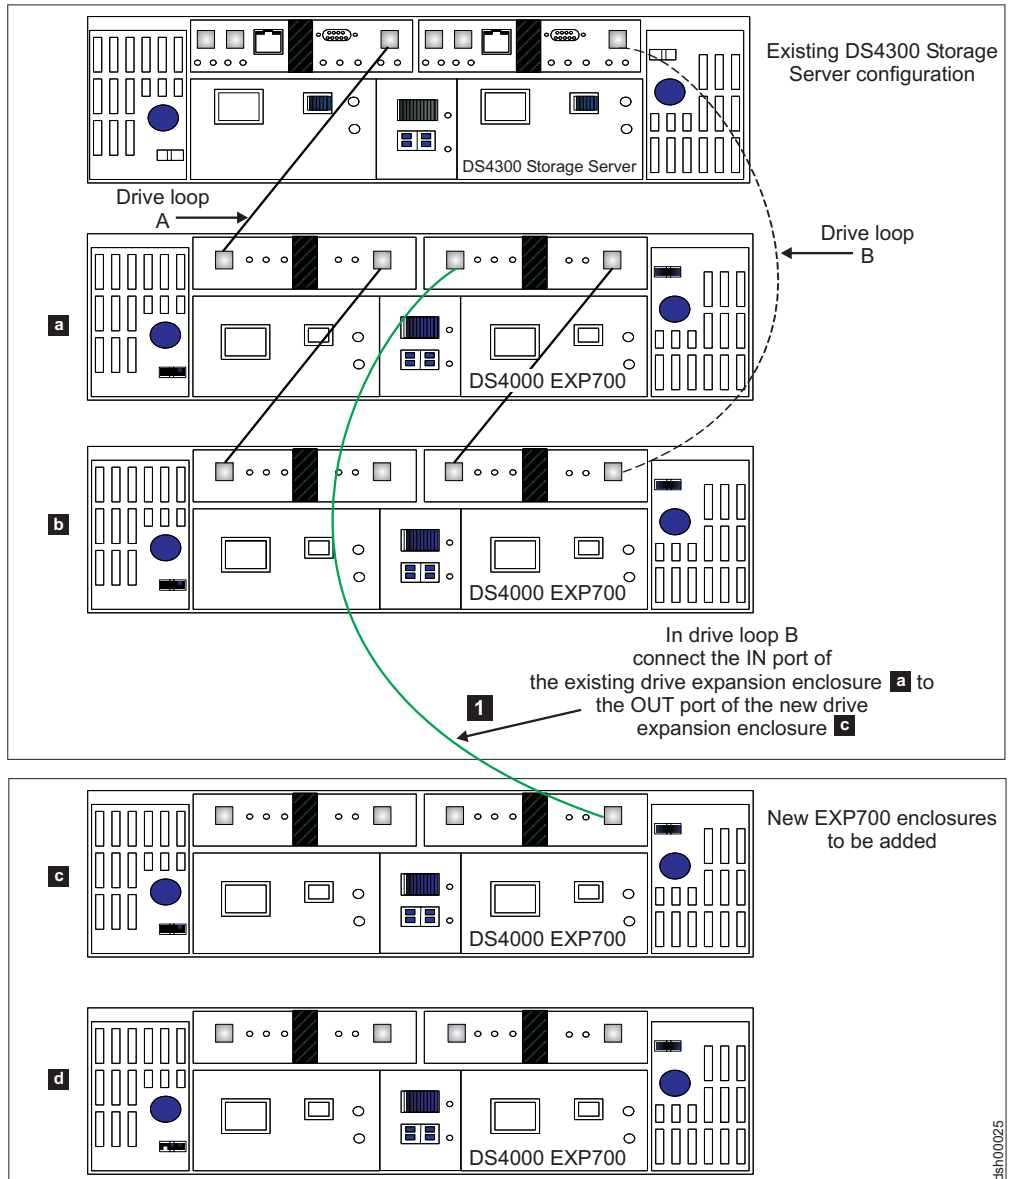
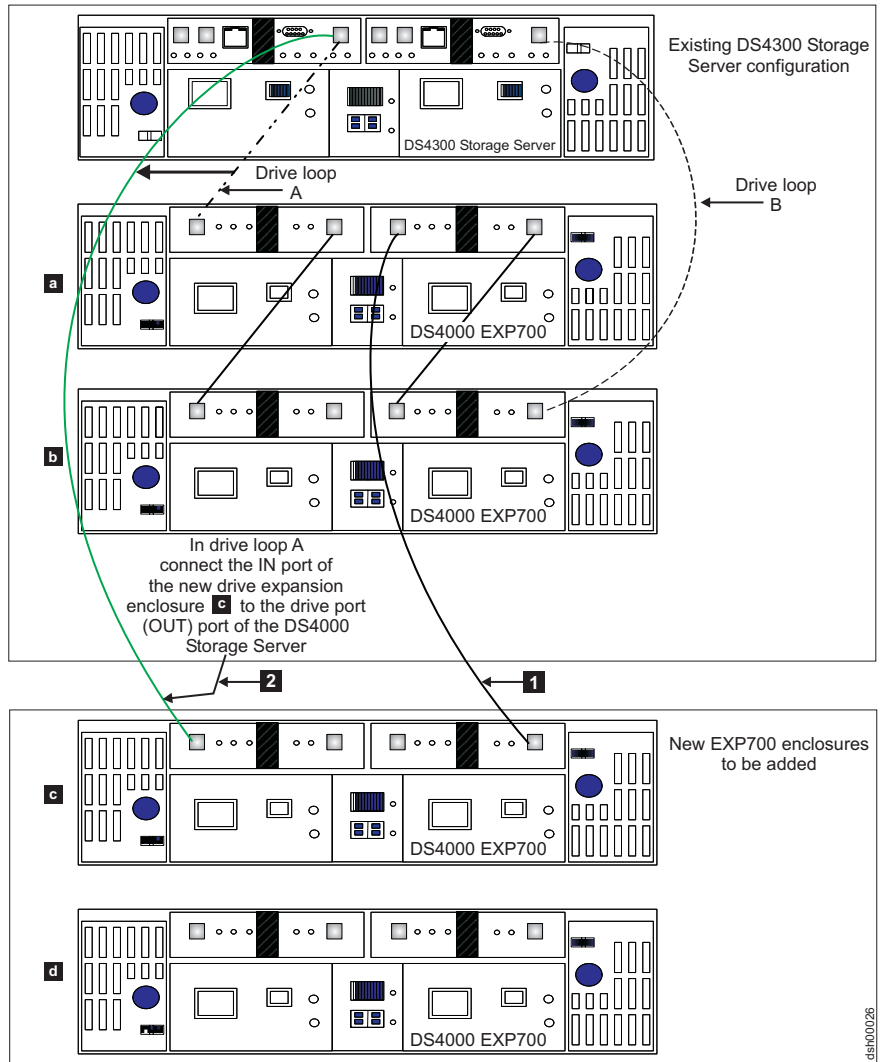
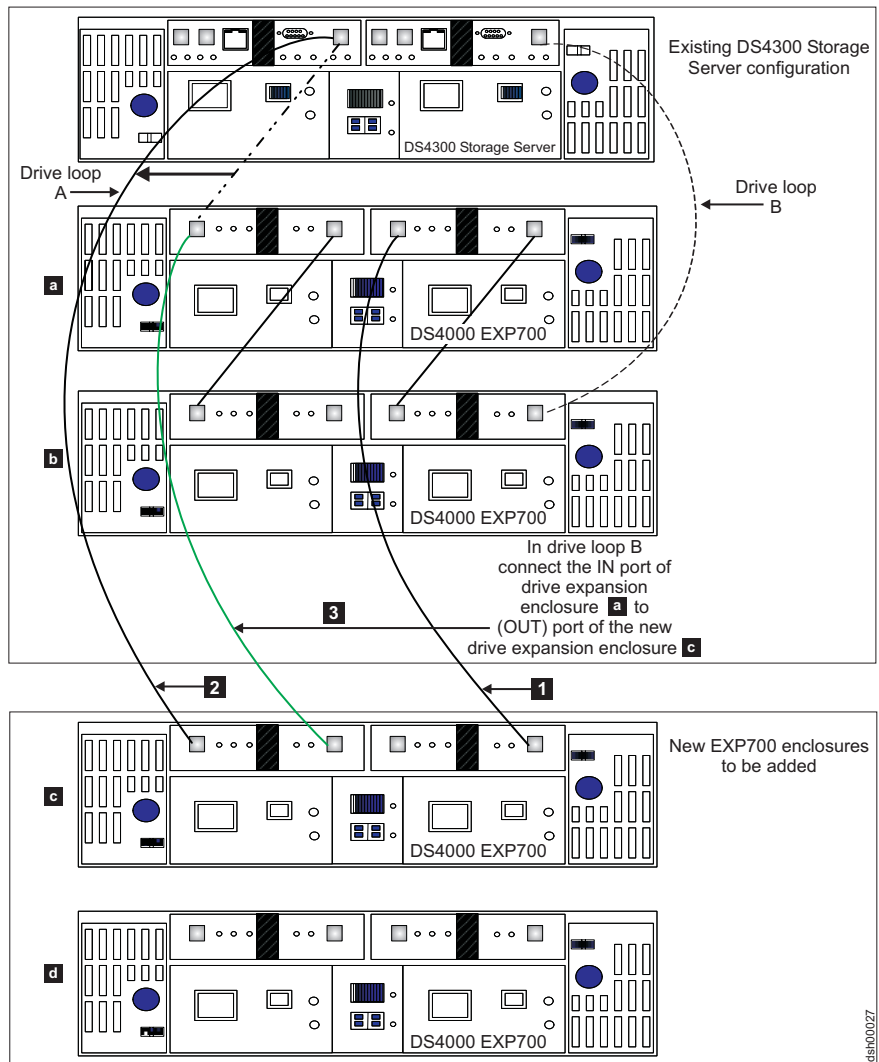

Figure 41. Cabling a single drive enclosure to the beginning of a functioning drive loop (step 1 of 3)
Figure 42. Cabling a single drive enclosure to the beginning of a functioning drive loop (step 2 of 3)
Figure 43. Cabling a single drive enclosure to the beginning of a functioning drive loop (step 3 of 3)
It is possible to add new storage expansion enclosures to either the beginning (top) or end (bottom) of a functioning storage expansion enclosure drive loop. The cabling instructions illustrated in Figure 41 on page 106, Figure 42 on page 107, and Figure 43 on page 108 describe cabling a DS4000 EXP700 Storage Expansion Enclosure to the beginning (top) of a redundant drive loop of a functioning DS4300 Storage Subsystem (model 60X or 60U). IBM does not recommend that you add storage expansion enclosures in this manner, especially if there is insufficient rack space to allow the methodical, uncluttered, and uniform fibre channel cabling of such new enclosures. Without proper planning, disadvantages of adding expansion enclosures in this manner include cable management issues that contribute to avoidable troubleshooting difficulties. (For the diagram of a properly planned addition of a new expansion enclosure at the beginning (top) of a functioning storage expansion enclosure drive loop, see Figure 35 on page 88.)
- ___ Step 2. Extend one of the drive loops (that is, drive loop B) in a DS4000 Storage Subsystem redundant drive loop pair by connecting the IN port of the first (existing) storage expansion enclosure to the OUT port of the new storage expansion enclosure as shown in Figure 41 on page 106.
- ___ Step 5. In the other drive loop (that is, drive loop A) in a DS4000 Storage Subsystem redundant drive loop pair, remove the connection from the DS4000 Storage Subsystem drive loop port to the IN port of the first storage expansion enclosure and connect it to the IN port of the new drive enclosure as shown in Figure 42 on page 107.
- ___ Step 7. In drive loop A, cable the new drive enclosure's OUT port to the IN port of the first enclosure in the already functioning storage expansion enclosure drive loop as shown in Figure 43 on page 108.